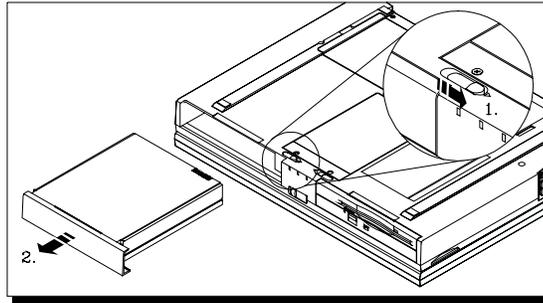

Figure 5-4: Removing the Battery Pack
To remove the battery pack from its housing, refer to **Figure 5-4** and the following instructions:
3. Slide the latch lock in the direction of the arrow (1), as shown in **Figure 5-4**.
4. Now, gently pull the module out of its housing (2). The release latch is spring-loaded and will snap back into place when you release it.